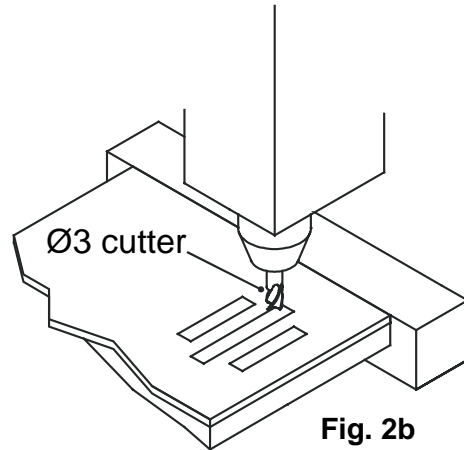

Fig. 2b
- (c) Fig. 10a shows the design for panel cut-outs to allow sound from a speaker to be heard. The panel is shown in Fig. 2b in a CNC milling machine.